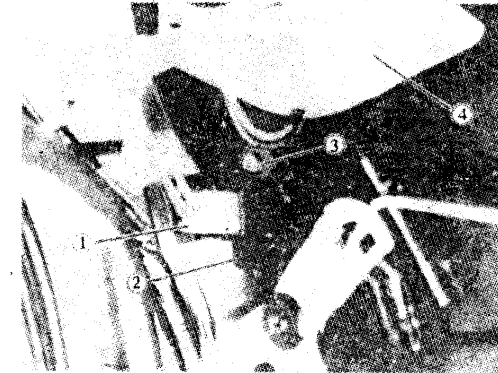

Fig. 5.1-3
(2) Disconnect wiring harness connector, see Fig. 5.1-3.